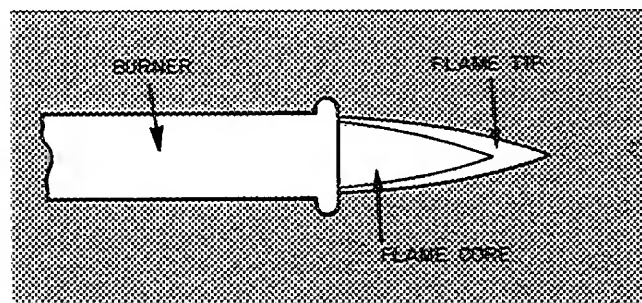

Fig. 43 — Proper Flame Appearance
6. Observe burner operation and adjust main gas valve for correct burner operation as required. See Fig. 43 for proper flame appearance.